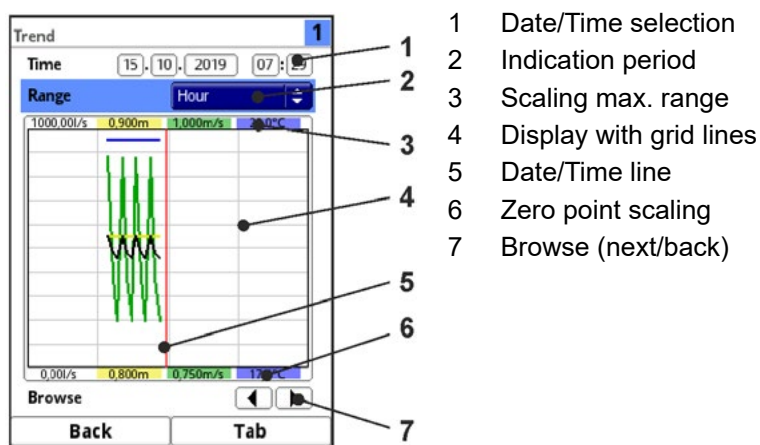

Fig. 33-2 Trend Graph Details
2. Use the arrows (Fig. 33-2 no. 7) to browse next or back if required leaving the basic display settings unaltered.
The **Date/Time Selection** (Fig. 33-2 no. 1) can be found in the top area of the main screen. The line is highlighted blue and hence active.
5. Confirm your entry with the right function key. Date and time will be accepted. The readings are shown in the display depending on the date and the period selected (Fig. 33-2 no. 2). The vertical red line (Fig. 33-2 no. 5) marks the selected point of time (date and time).
➤ Modify the setting using the >Range< section (see Fig. 33-2 no. 2).